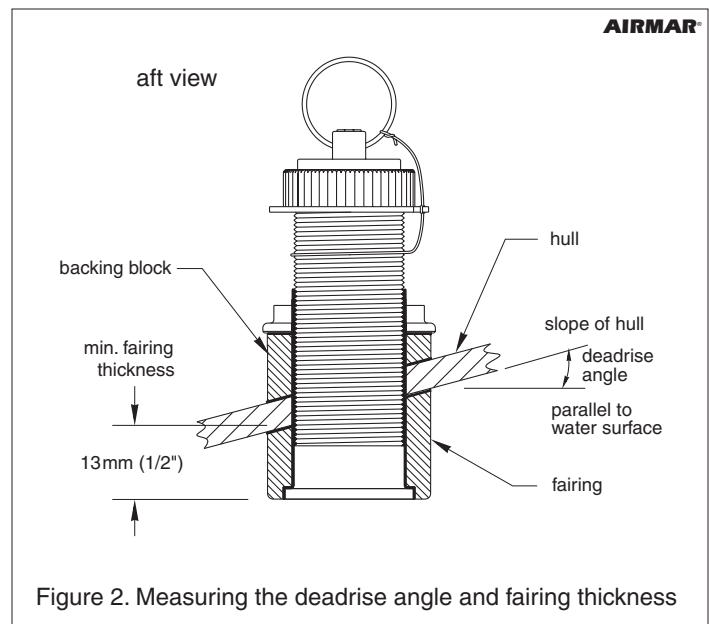

Figure 2. Measuring the deadrise angle and fairing thickness
1. Drill a 3mm or 1/8" pilot hole perpendicular to the waterline from inside the hull (see Figure 2). If there is a rib, strut, or other hull irregularity near the selected mounting location, drill from the outside.
1. Measure the deadrise angle of the hull at the selected mounting location using a digital level, or bubble level and protractor (see Figure 2).
4. Adjust the cutting fence. The fairing must be a minimum of 13mm (1/2") at its thinnest dimension (see Figure 2).
1. To locate the hole for the anti-rotation bolt, dry fit the transducer in the fairing. Seat the transducer housing firmly in the recess in the fairing (see Figure 2).